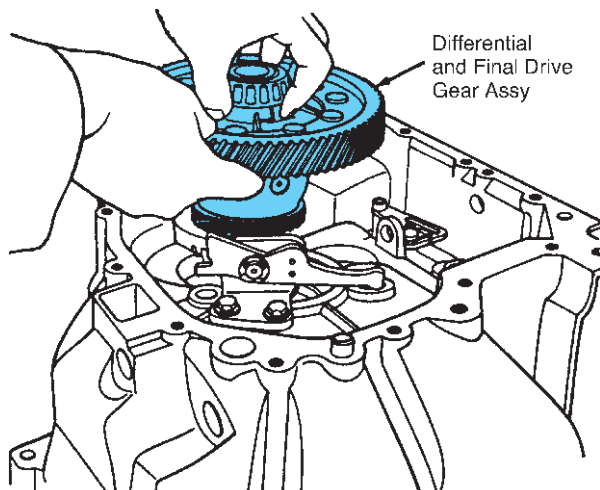

FIGURE 8-23 On this transaxle, the differential assembly is removed after the gear assemblies have been removed. (Courtesy of Ford Motor Company)
- If not done in step 1, remove the ring gear and differential assembly (Figure 8-23). The side gears of some differ-